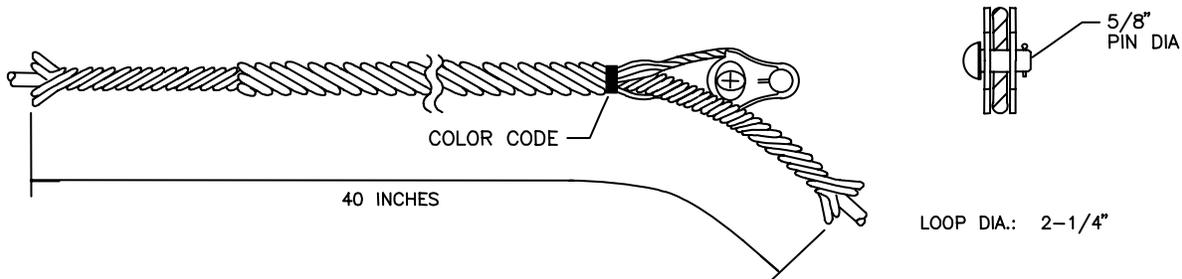

Figure 1 – Dead-End Assembly
1.1 The dead-end assembly (Figure 1) is used to terminate all-dielectric self-supporting (ADSS) cable at corner or dead end poles. The assembly is used to grip the cable and transfer tension from the cable to the pole. The dead-end assembly consists of a structural reinforcing layer, a dead-end component, thimble eye, and an optional extension link. The structural reinforcing layer consists of several subsets of reinforcing rods. The number and length of rods may vary according to the particular cable and application. The following instructions describe installation of the dead-end assembly onto the cable.